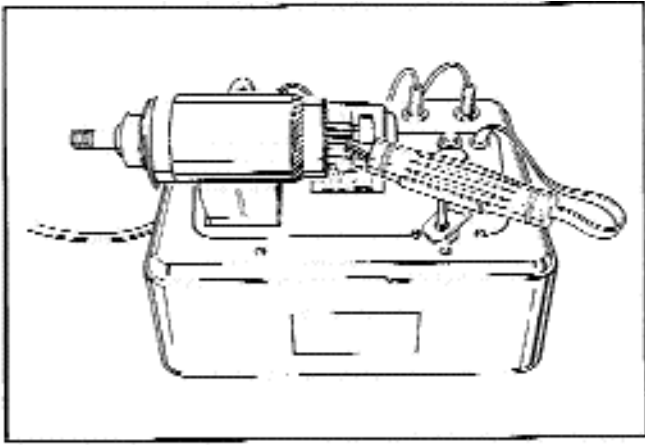

**Figure 12 - Armature Short Test**
2. Using steel blade provided with tester, or hack saw blade, hold blade parallel with and touching armature core. See Figure 12.